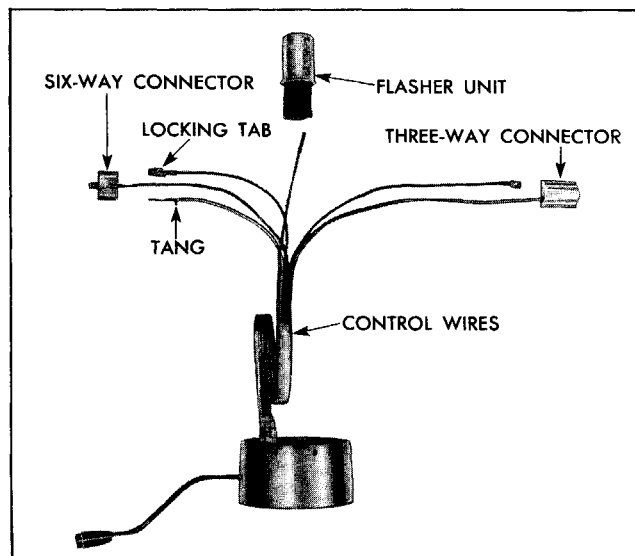

Fig. 14-3 Direction Signal Control Wire Connections
NOTE: The direction signal control assembly has six wires of various colors which run through the steering column mast jacket and connect to the flasher unit, body wire harness, and main wire harness. One wire connects directly to the flasher unit, two wires connect to the body wire harness by means of a three-way connector, and three wires connect to the main wire harness by means of a six-way connector (Fig. 14-3).
3. Disconnect steering column wires from main wires at six-way connector. Using a small screwdriver or similar tool to depress locking tab on side of terminals (Fig. 14-3), remove three direction signal control wires from connector.
5. Note carefully the colors of the wires in main wire harness connector. Replace three direction signal control wires in six-way connector so colors match with those in main wire harness. **NOTE:** The terminals of each of these three wires have a locking tab on the side and a tang at the rear (Fig. 14-3). The terminals must be installed so that tang fits into slot in rear of connector. If necessary, bend locking tab so terminals will lock in connector.